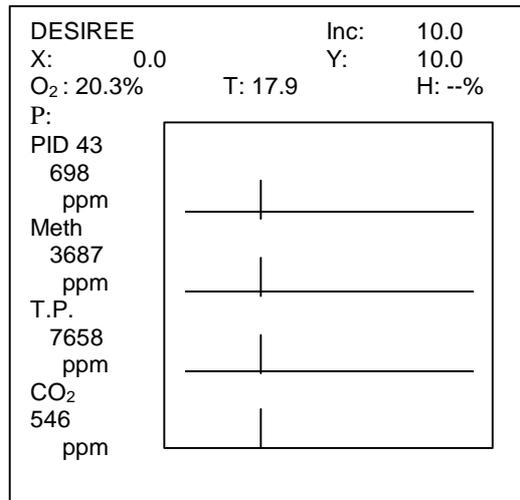
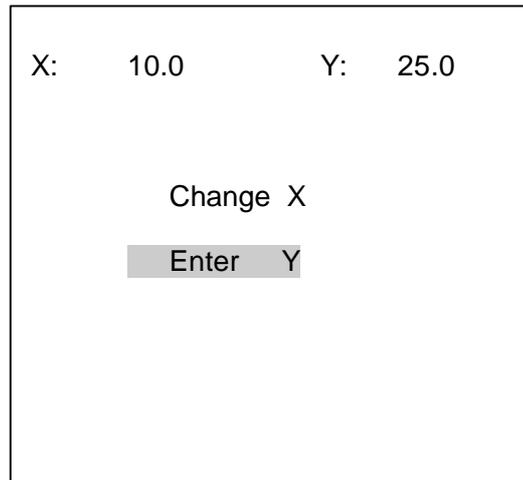

Figure 15: Measuring Mode Menu after measuring of the first station
Figure 17: Change “Y” coordinate
- Use ? when *Press ->* is displayed. Current values of concentration are displayed during the sampling interval in four graphs and resulting concentration is displayed at the end of the sampling interval on the-left hand side. (Figure 15)
- Use ? from the Measurement Mode Menu (Figure 15) to open the menu in Figure 17.